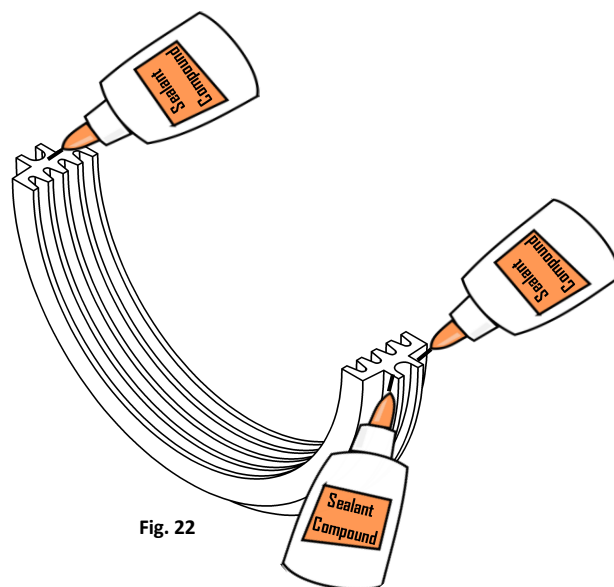

Fig. 22
- Prepare the seal for installation by coating the surface of the split line and the exterior of the spring guide with a thin film of non-hardening sealing compound (Fig. 22).